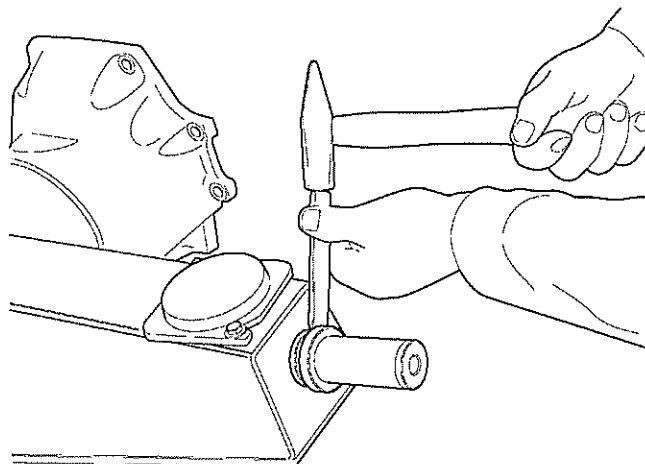

Fig 25 Distance ring removal
- 27.10 Loosen distance ring with chisel and remove (see Fig 25).